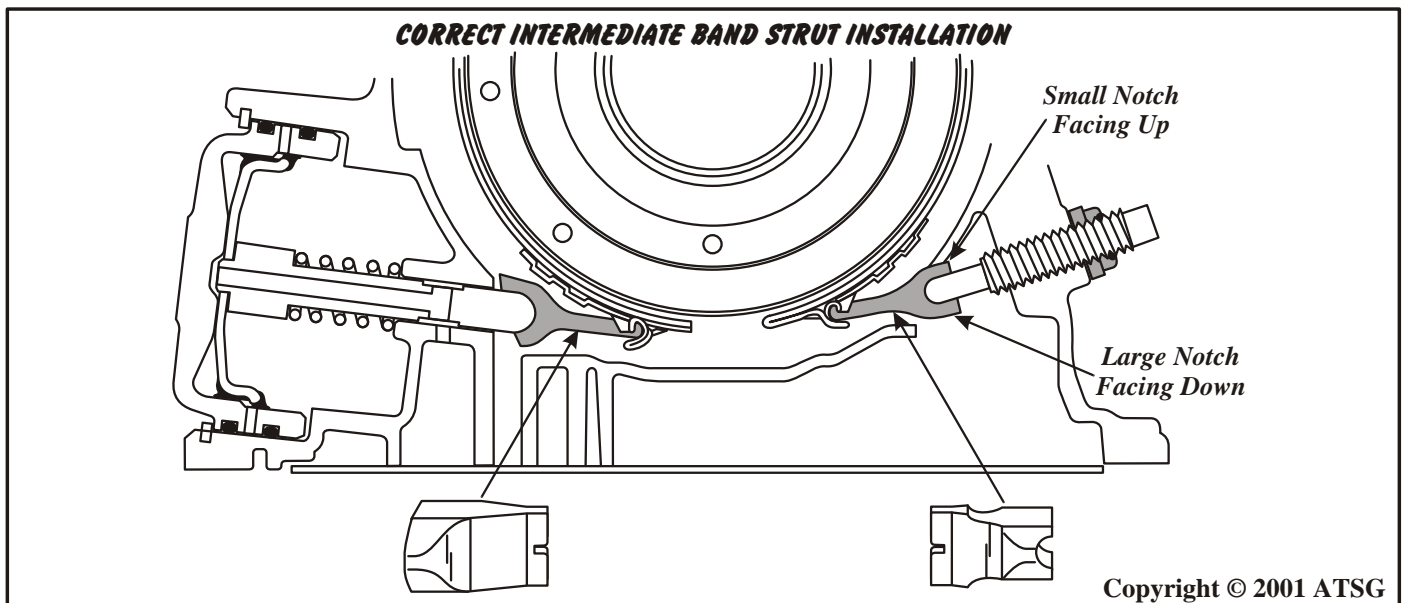

Figure 155
38. Install the intermediate band struts on each side of the band, *exactly* as shown in Figure 155.
Caution: *The anchor or adjustment side must have strut installed that is illustrated in Figure 155 and must be installed with the small notch facing the top of transmission.*
The apply or servo side must also be installed, as shown in Figure 155.